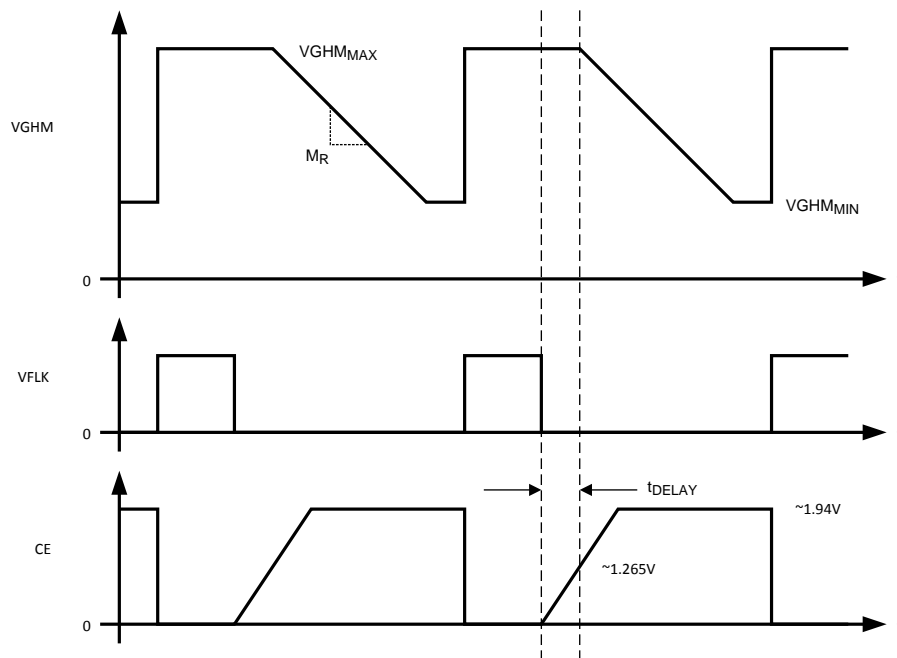
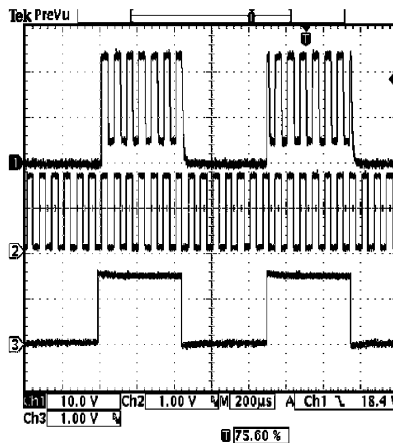

Figure 45.
Figure 46. Waveform
The Gate Pulse Modulation (GPM) block is designed to provide a modulated voltage to the gate driver circuitry of a TFT LCD display. Operation is best understood by referring to the GPM block diagram in the Block Diagrams section, the drawing in Figure 45 and the transient waveforms in Figure 46 and Figure 47.
When VDPM is high, typical waveforms for the GPM block can be seen in Figure 45. The pin VGH is typically driven by a 2x or 3x charge pump. In most cases, the 2x or 3x charge pump is a discrete solution driven from the SW pin and the output of the boost switching regulator. When VFLK is high, the PMOS switch P2 is turned on and the PMOS switch P3 is turned off. With P2 on, the VGHM pin is pulled to the same voltage applied to the VGH pin. This provides a high gate drive voltage,  $VGH_{MAX}$ , and can source current to the gate drive circuitry. When VFLK is high, NMOS switch N3 is on which discharges the capacitor CE.
When the voltage on CE reaches about 1.265V and the VFLK signal is low, the PMOS switch P2 will turn off and the PMOS switch P3 will turn on connecting resistor R3 to the VGHM pin through P3. This will discharge the voltage at VGHM at some rate determined by R3 creating a slope,  $M_R$ , as shown in Figure 45. The VGHM pin is no longer a current source, it is now sinking current from the gate drive circuitry.
Figure 46 and Figure 47 give typical transient waveforms for the GPM block. Waveform (1) is the VGHM pin, (2) is the VFLK and (3) is the VDPM. The output of the boost switching regulator is operating at 8.5V and there is a 3x discrete charge pump (~23.5V) supplying the VGH pin. In Figure 46 and Figure 47, the VGHM pin is driving a purely capacitive load, 4.7nF. The value of resistor R1 is 15k $\Omega$ , R2 is 1.1k $\Omega$  and R3 is 750 $\Omega$ . In both transient plots, there is no  $C_E$  delay capacitor.